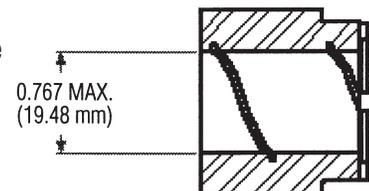

figure 17
1. Inspect the bushings (items 4A, 4B) - The silicon carbide parts will not wear under normal operation. Polishing on a silicon carbide surface is a normal occurrence and usually does not require replacement. Check for signs of melting around the perimeter of the bushings. Make sure that the spiral groove on the bushing ID is not plugged. Check for chips or cracks on the rear face. Check bushings for wear (*see figure 17*). If the bushings appear worn, follow the steps listed in the section “Replacing Wear Components, Impeller Bushings.”
4. Press on face of rear impeller bushing until (2) bushings (item 4A) and (1) spacer (item 4B) have been removed. Check for excessive wear. *See figure 17.*